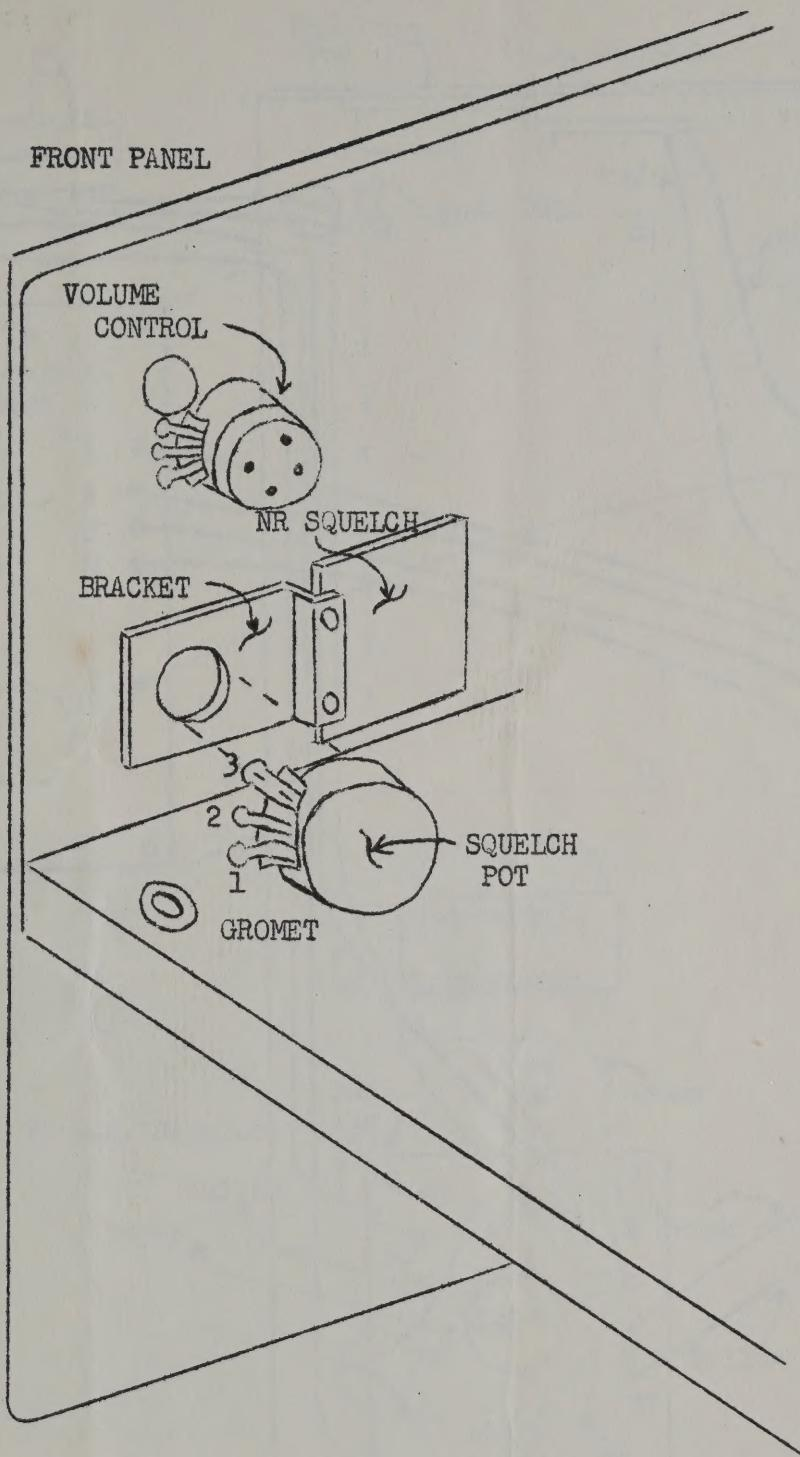

FIGURE 1
11. Unsolder the ground lug from the bottom squelch control lug #(1) as illustrated in Fig 1.
13. After the squelch control has been removed, place it through the N. R. Squelch bracket mounting hole as illustrated, and replace the entire assembly on the panel as shown in the illustration. Fig 1
14. Replace the knurled nut on the squelch control and tighten. Be sure the N.R. Squelch board and the squelch control are positioned as illustrated, in Fig. 1.
15. Note, that the bottom #(1) lug of the squelch control is no longer grounded.
16. Disconnect the wire from lug #(2) of the squelch control, and solder it directly to the ground lug located under squelch control lug #(1).
17. Disconnect the red wire from squelch control lug #(3). Remove the other end of this wire from pin #(4) on the IF board. Remove this wire from the unit and discard.
18. Solder the green wire from the NR squelch board to center lug #(2) on the squelch control. (Fig 1)
19. Solder the pink wire from the NR squelch board to lug #(1) on the squelch control.